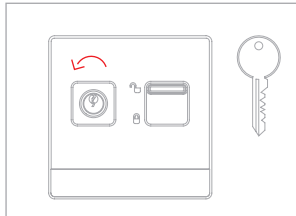

Fig. 4
- Fig. 4: Turn the key counterclockwise, remove the key